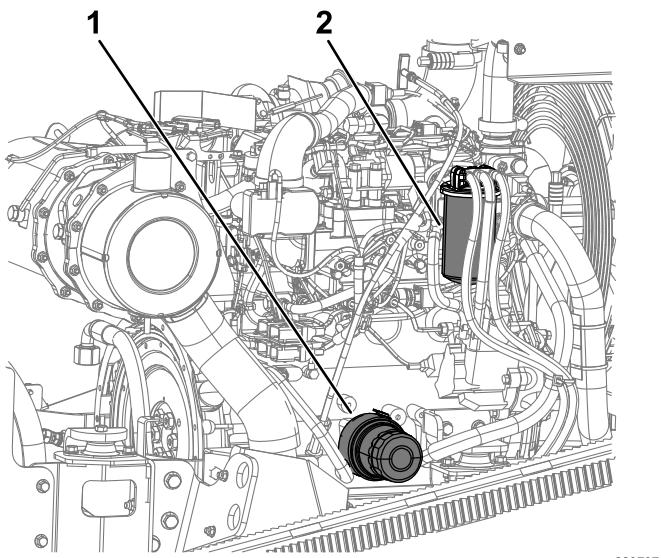

Figure 93
3. Change the engine oil as shown in Figure 93.